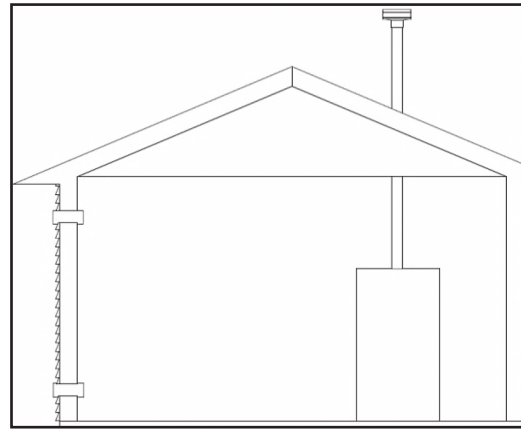
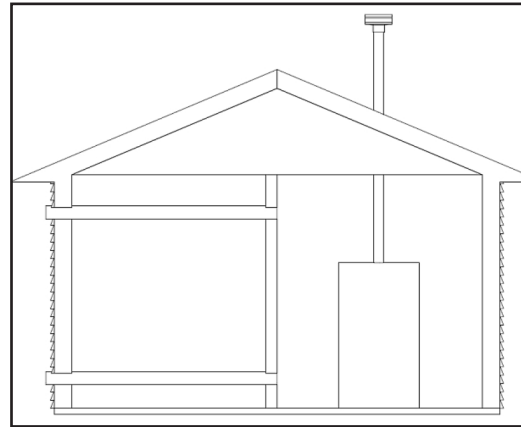

Figure 20 - Combustion Air from Outdoors
Figure 21 - Combustion Air through Ductwork
1. If air is taken directly from outside the building with no duct, provide two permanent openings to the mechanical room each with a net free area of one square inch per 4000 BTU/hr input. See Figure 20.
2. If combustion and ventilation air is taken from the outdoors using a duct to deliver the air to the mechanical room, each of the two openings should be sized based on a minimum free area of one square inch per 2000 BTU/hr input. See Figure 21.
| Model | Figure 20 | | Figure 21 | |